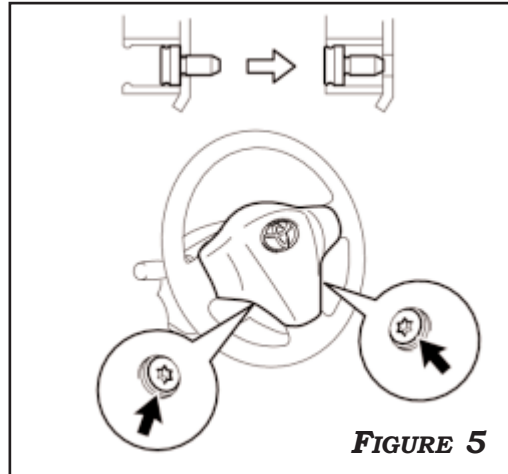

FIGURE 5
1. REMOVE AIRBAG BY EXTRACTING THE TWO 30 TORX SCREWS AS ILLUSTRATED IN **FIGURE 5**.